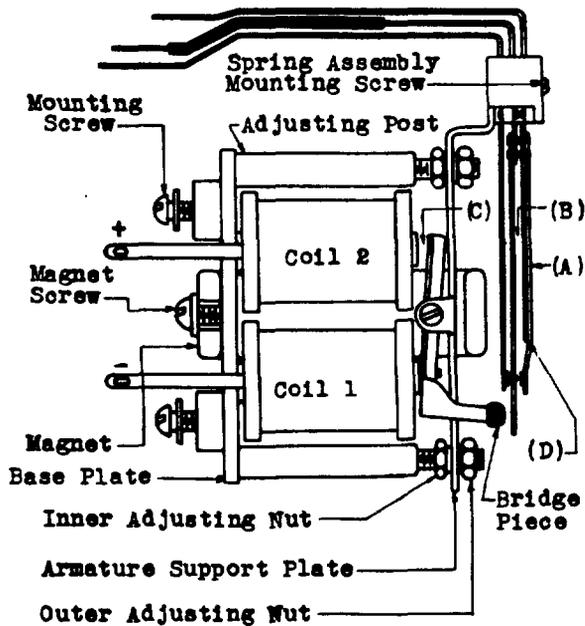

Fig. 2
- 2.08 Straightness of Springs:** Fig. 2(A) - All springs from the point where they leave the assembly clamping plates and insulators, to the ends of the springs, shall be free of sharp bends or kinks due to adjustment, but a gradual bow in the springs is permissible. Gauge by eye.
- 2.09 Separation Between Springs - Fig. 2 (B) -** There shall be a clearance between adjacent springs whether in the operated or unoperated positions of the relay of Min. .015" Gauge by eye.
- 2.10 Armature Travel - Fig. 2 (C) -** Unless otherwise specified on the circuit requirement table the armature travel shall be:
- 2.11 Flexible Front Contact Spring Position** Fig. 2 (D) - The flexible front contact spring shall rest against the stop spring, at least on the end of the stop spring that is nearest the contact, when the relay is unoperated. Gauge by eye.